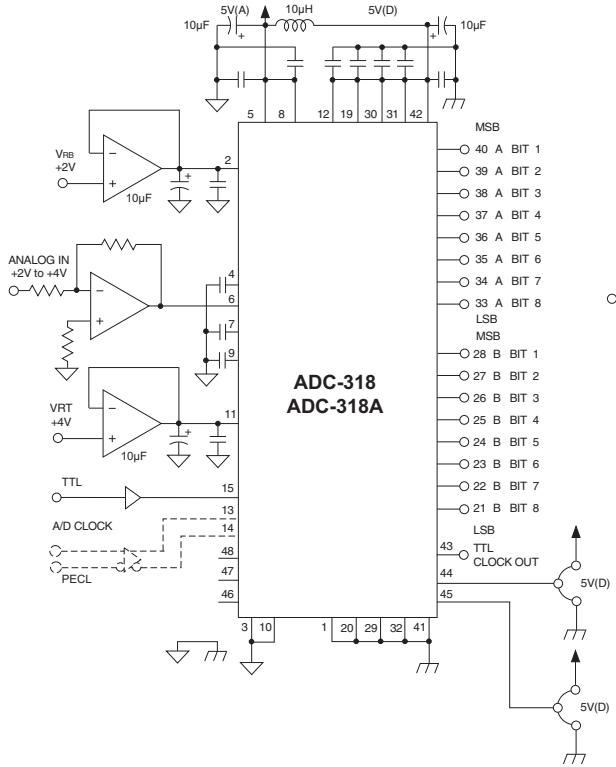

Figure 2-1: One Power Supply Operation (TTL, PECL)
6. A/D CLK input and RSET/RSET inputs are TTL or ECL, PECL (Positive ECL) compatible. Pins are provided individually. TTL or PECL is available with +5V single power applied. ECL is available with $\pm 5V$ dual power applied. The connections of -DVs (pin 1) and DGND3 (pin12) are different depending on the power supply mode used. Refer to Figures 2-1 and 2-2.